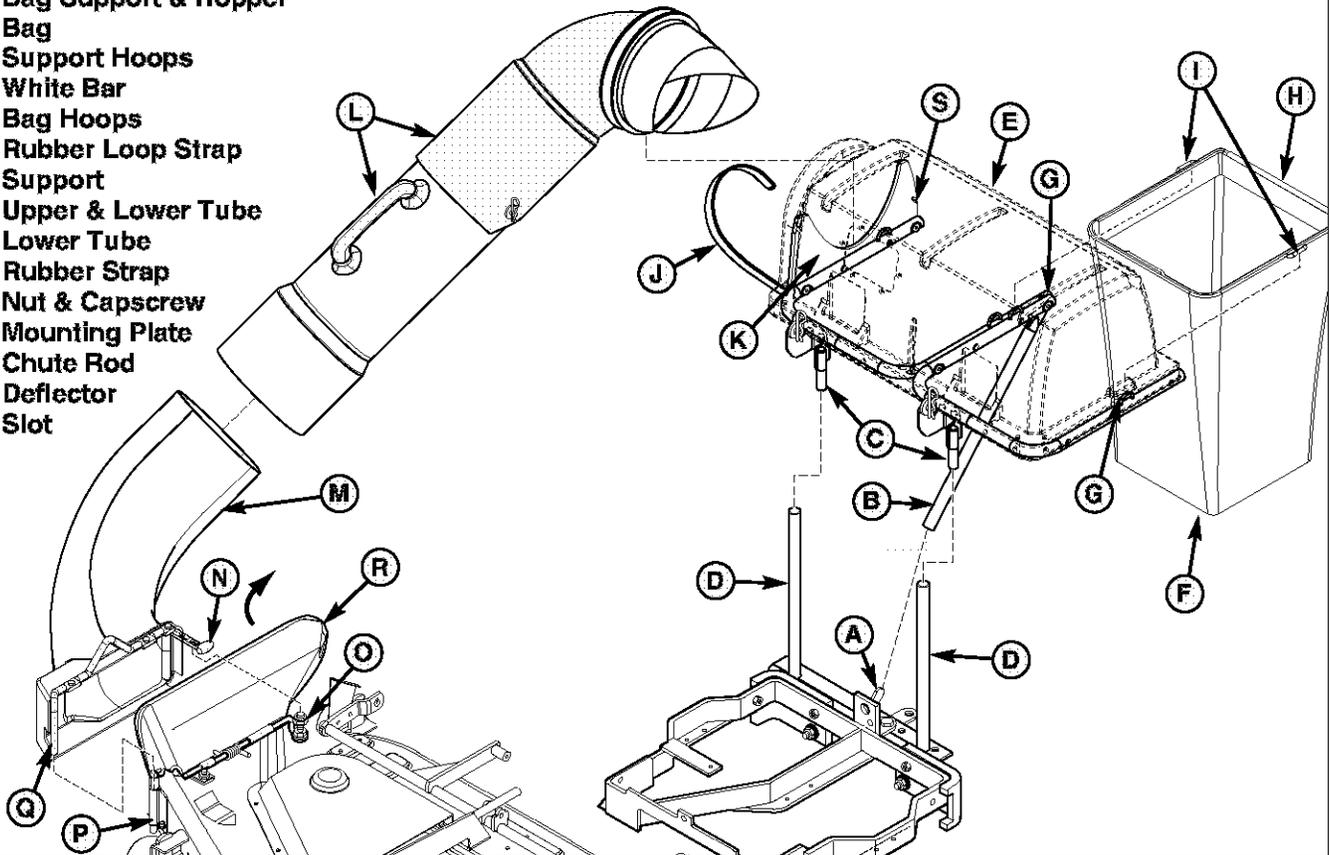

Figure 12. Normal Installation & Removal
1. Mount the bag support & hopper (E, Figure 12) by inserting tube (B) over hitch post (A) and inserting posts (C) into hitch tubes (D).
2. Pivot bag support and hopper (E) up. Install bag (F) with white bar (H) towards the rear. Set bag hoops (I) on bag support hoops (G) as shown. Repeat for other side.
3. Install lower tube (M). Lift discharge deflector up (R). Insert lower chute rod (Q) into mounting plate (P). Pull rubber strap (N) and secure by placing hole closest to knob in strap completely over locknut and cap-screw(O).
4. Slide upper & middle tube (L) over lower tube (M). Set upper & middle tube (L) onto support (K). Secure with rubber loop strap (J) by hooking it into slot (S).
1. Unhook rubber loop strap (J, Figure 12) from slot (S).
2. Remove upper & lower tube (L) from support (K) and lower tube (M).
3. Disconnect rubber strap (N) from locknut and cap-screw (O). Remove lower tube (M) from bracket (P). See that discharge deflector (R) returns to the DOWN position.
4. Lift and remove bag support and hopper from hitch tubes (D) and the hitch post (A).